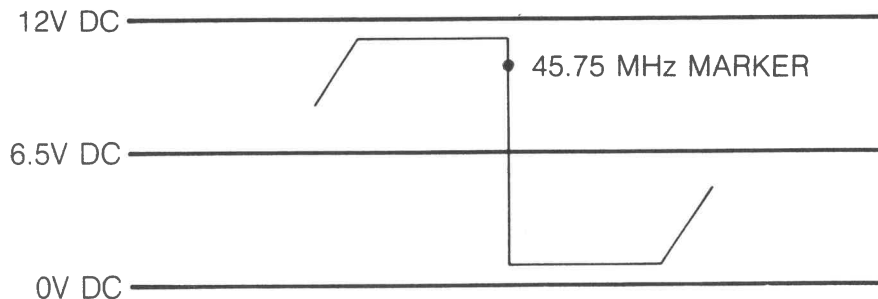

Figure 15
6. Adjust the waveform of the alignment scope to the same as Figure 15 and adjust L171 to position the 45.75 MHz marker to $10.5 \pm 0.5V$ DC.